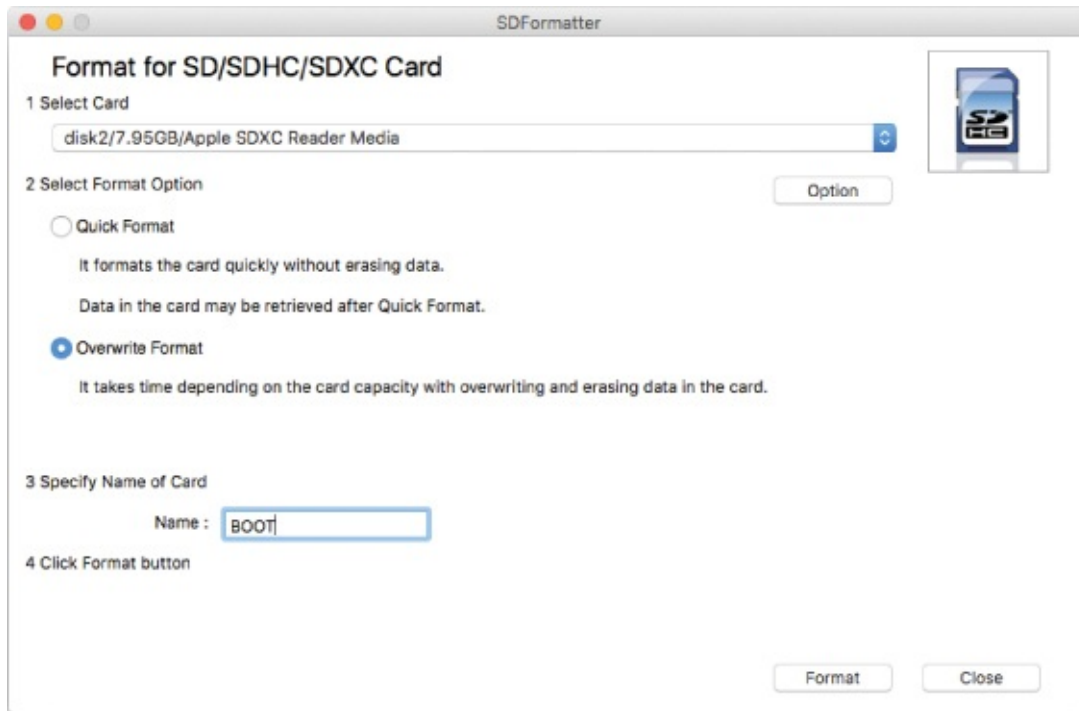

FIGURE 0-9: The SD Card Formatter dialog on macOS
5. If you're using macOS, in the SD Card Formatter dialog, select the microSD card drive from the drop-down menu, select **Overwrite Format**, and name your microSD card **BOOT**, as shown in Figure 0-9. Then, click **Format**.